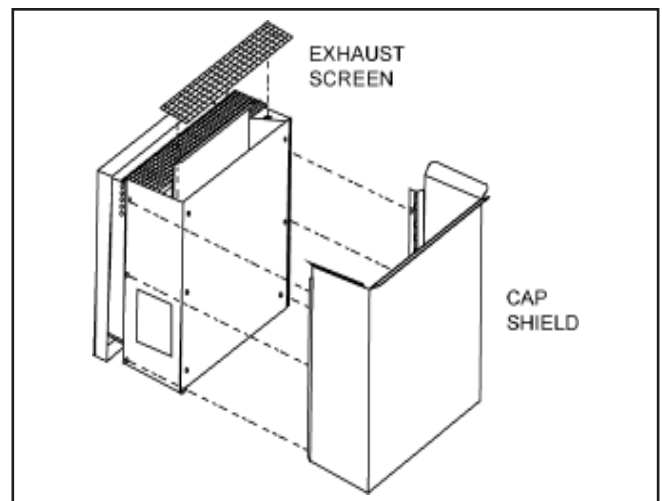

Figure 4 - Cap Shield
6. Slide the cap shield around the cap surround until the six holes at the back of the shield are aligned with the six holes on the sides of the cap surround. Attach the shield to the surround using six of the sheet metal screws provided. See Figure 4.
7. Fasten the exhaust screen to the exhaust plate with two sheet metal screws going into the two tabs on either side of the exhaust plate. See Figure 4.